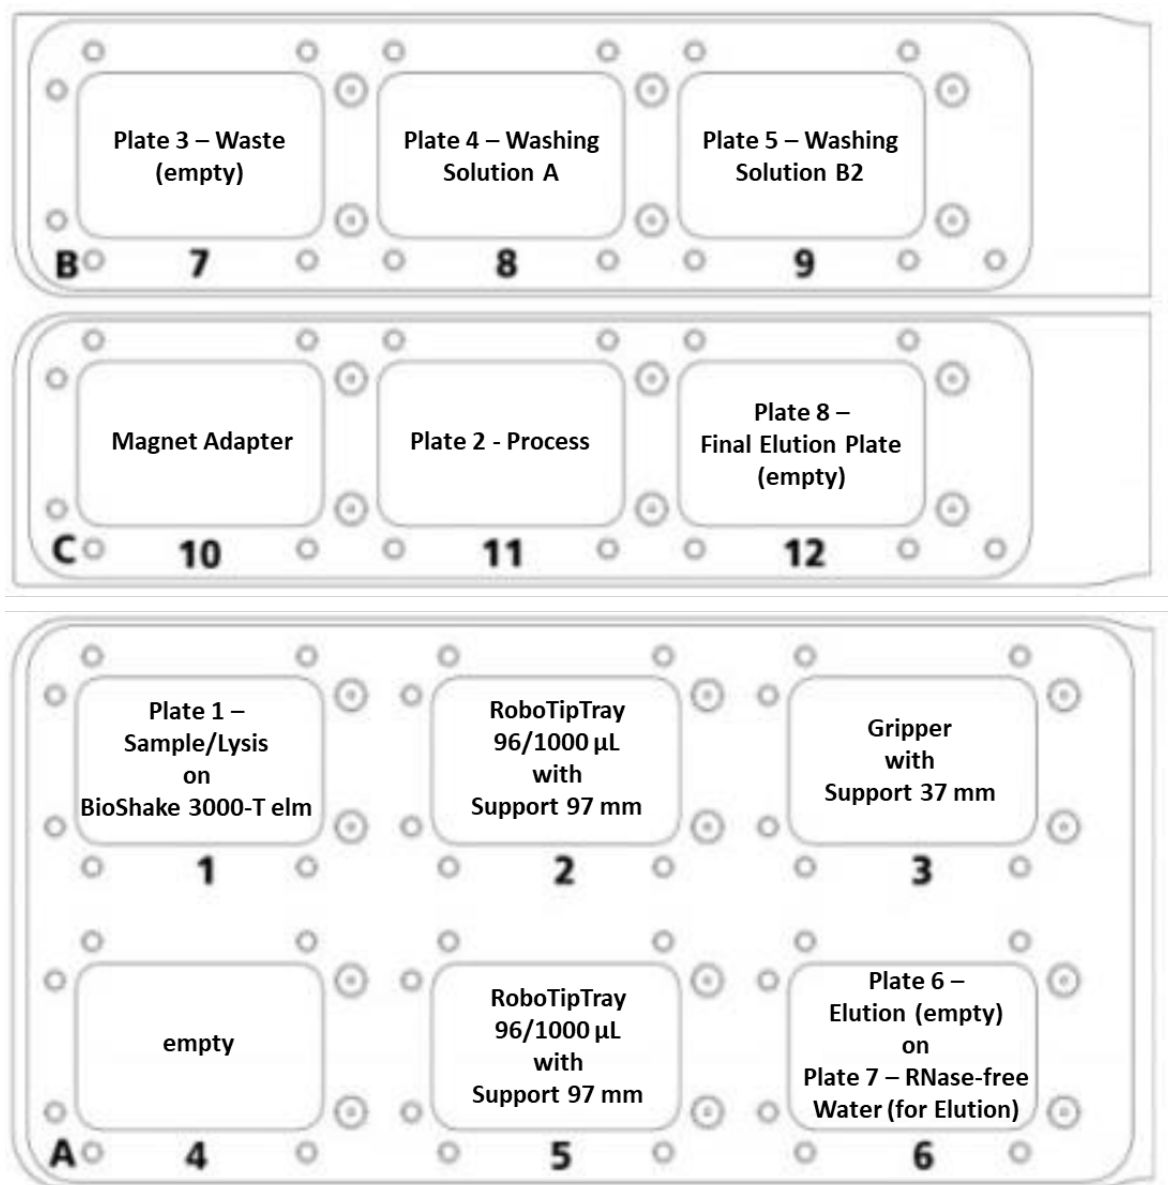

Figure 11: Deck layout for extraction from a 200 μ L sample.
1. Load all plates and accessories according to the scheme below (→ see Figure 11, p. 28).